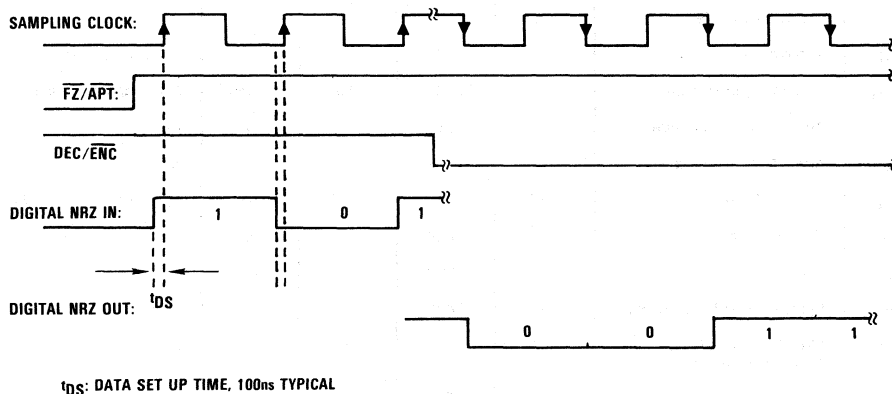

FIGURE 2. CVSD TIMING DIAGRAM
1. There is one NRZ (Non-Return Zero) data bit clock period. Data is clocked out on the negative clock edge. Data is clocked into the CVSD on the positive going edge (see Figure 2). Clock may be run at less than 9Kbps and greater than 64Kbps.